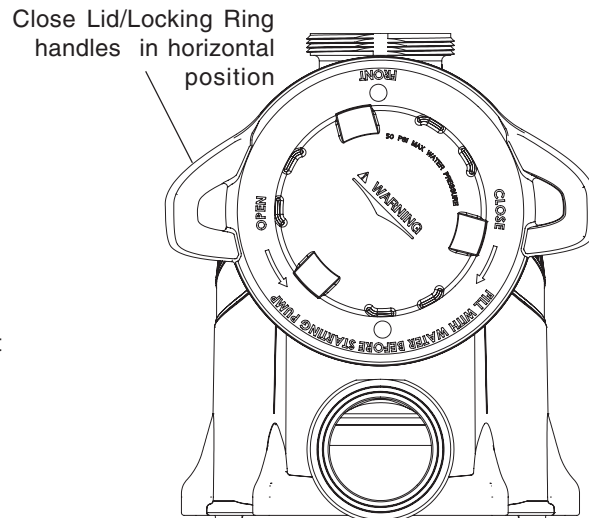

Figure 3.
- a. Make sure the lid O-ring is properly placed. Seat the lid and locking ring on the pump then turn clockwise until the locking ring handles are horizontal; see Figure 3 on next page.